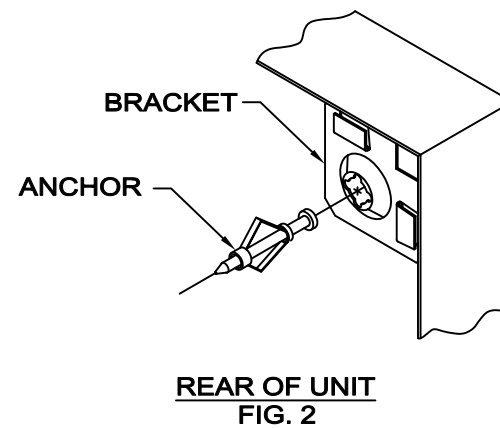

FIG. 2
4. HANG UNIT ONTO PROTRUDING SCREW HEADS USING SHEET METAL BRACKETS ON REAR OF UNIT (FIG. 2).